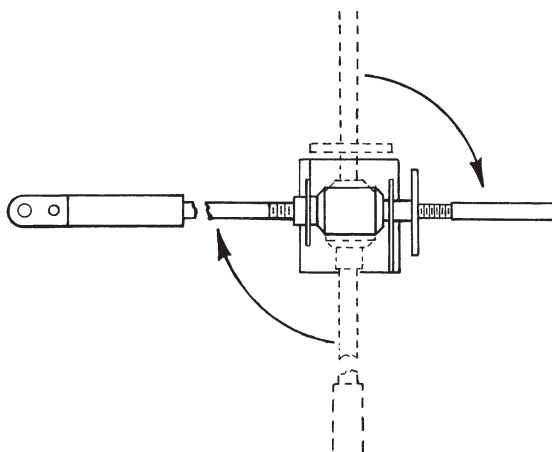

Figure 4.
1. Install adjustment nut of shift cable into shift cable retainer as shown in figure 4.
3. Install adjustment nut of throttle cable into throttle cable retainer as shown in figure 4.